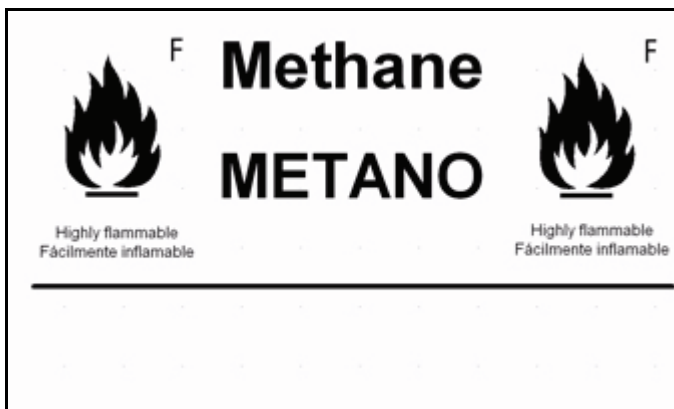

Figure 3-4. Sample HSID Label
16. Click **OK** to display your HSID label (Figure 3-4).